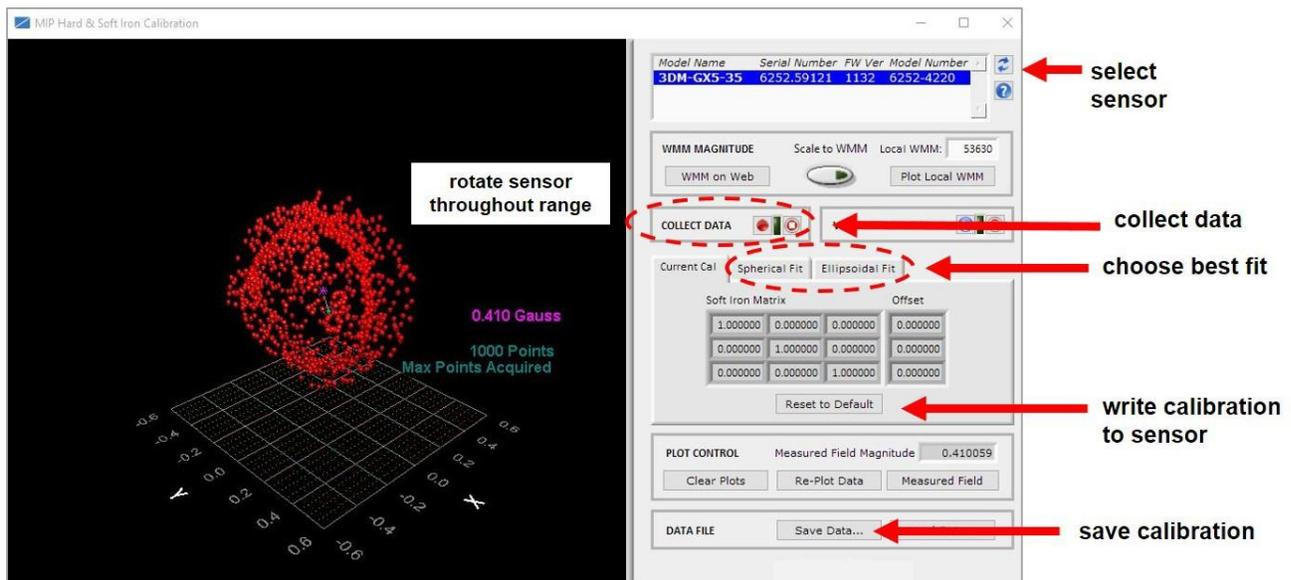

Figure 21 -Collect Calibration Data
- 6 Click the Spherical Fit or Ellipsoid Fit button, depending on the application ( Figure 21 - Collect Calibration Data ). Spherical Fit is often best for applications with calibration rotations restricted to a 2D plane: for example, a ground vehicle or a boat, because it will not likely not be rotated on all three axis. Ellipsoid Fit is generally a better correction when soft iron effects are present but only if enough data points can be collected in all quadrants. If the range of motion is restricted in one dimension, the Spherical Fit may be